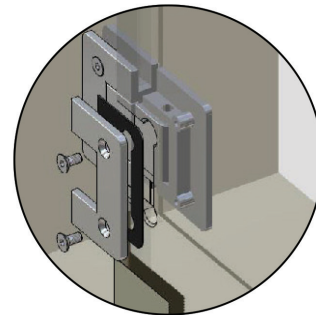

FIG 25.
- Fasten hinges to return panel and place in closed position. The screws should face into shower and the hinge pivot point should be on door panel (FIG 25). There must be 1x rubber gasket (supplied) between each hinge plate and the glass to prevent direct contact.